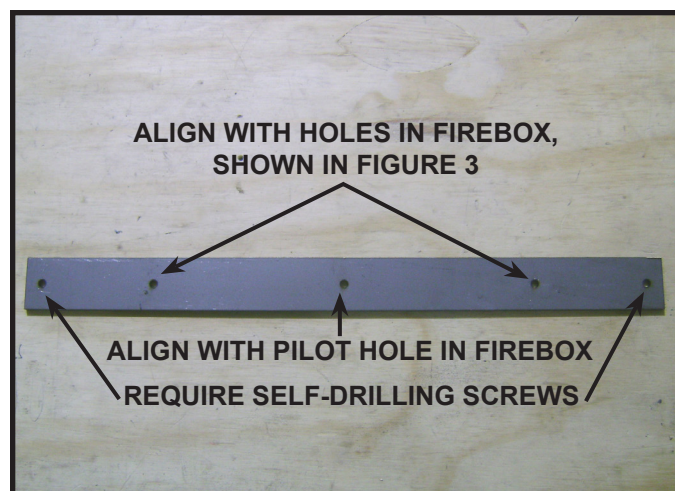

Figure 4. Thermal Expansion Bracket
2. Attach thermal expansion bracket to the back wall of the firebox by lining up holes in bracket and firebox and replacing the two screws removed in step 1. See Figure 4.
4. Use the two remaining short self tapping screws provided to secure the left and right ends of bracket to the firebox. See Figure 4.